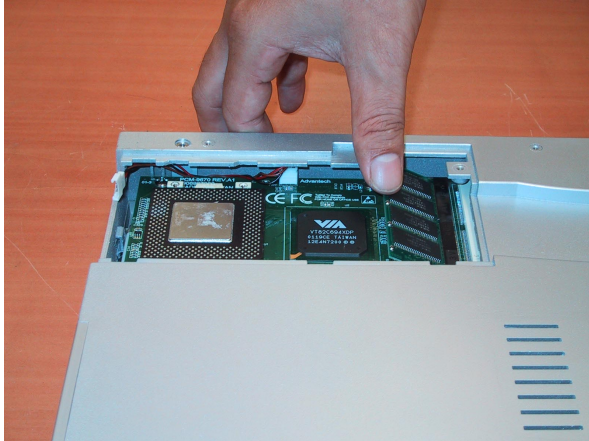

Figure 3-9: Installing the memory module
7. Next, install an SDRAM module. Slip the memory module into the socket at a 45 degree angle as shown in Figure 3-9.